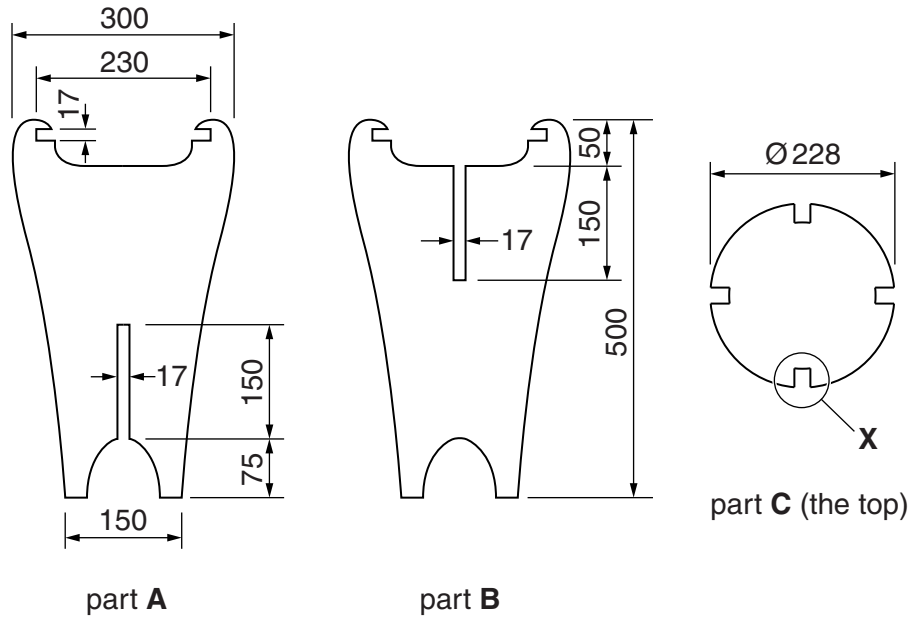

Fig. 4
- 4 Fig. 4 shows a 'flat-pack' table made from 15 mm thick plywood. The three parts of the table join together without the use of any additional materials.